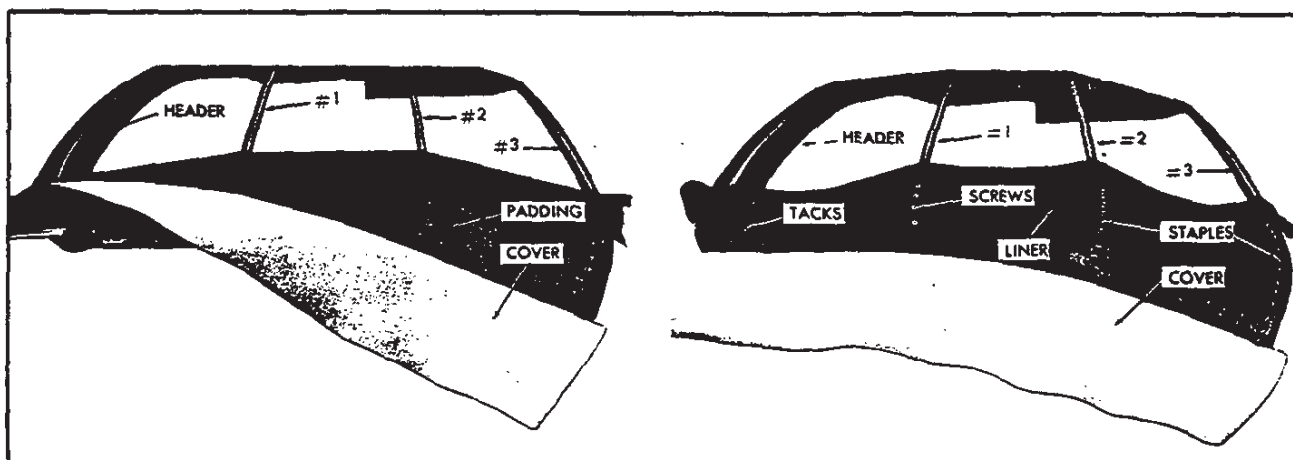

Fig. 68—Pad Construction
3. If new pads are required, install at this time, aligning with marks made when old pads were removed. Figure 68 shows pad construction; Figure 69 shows pad installed.